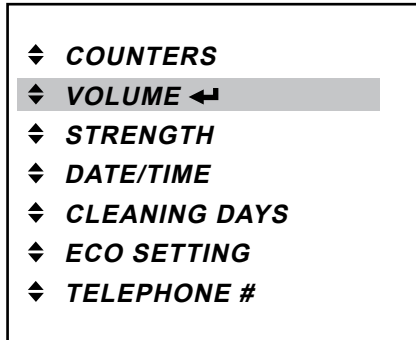

Fig. 39
1. Press the enter button  to access the «VOLUME» menu (fig. 39).